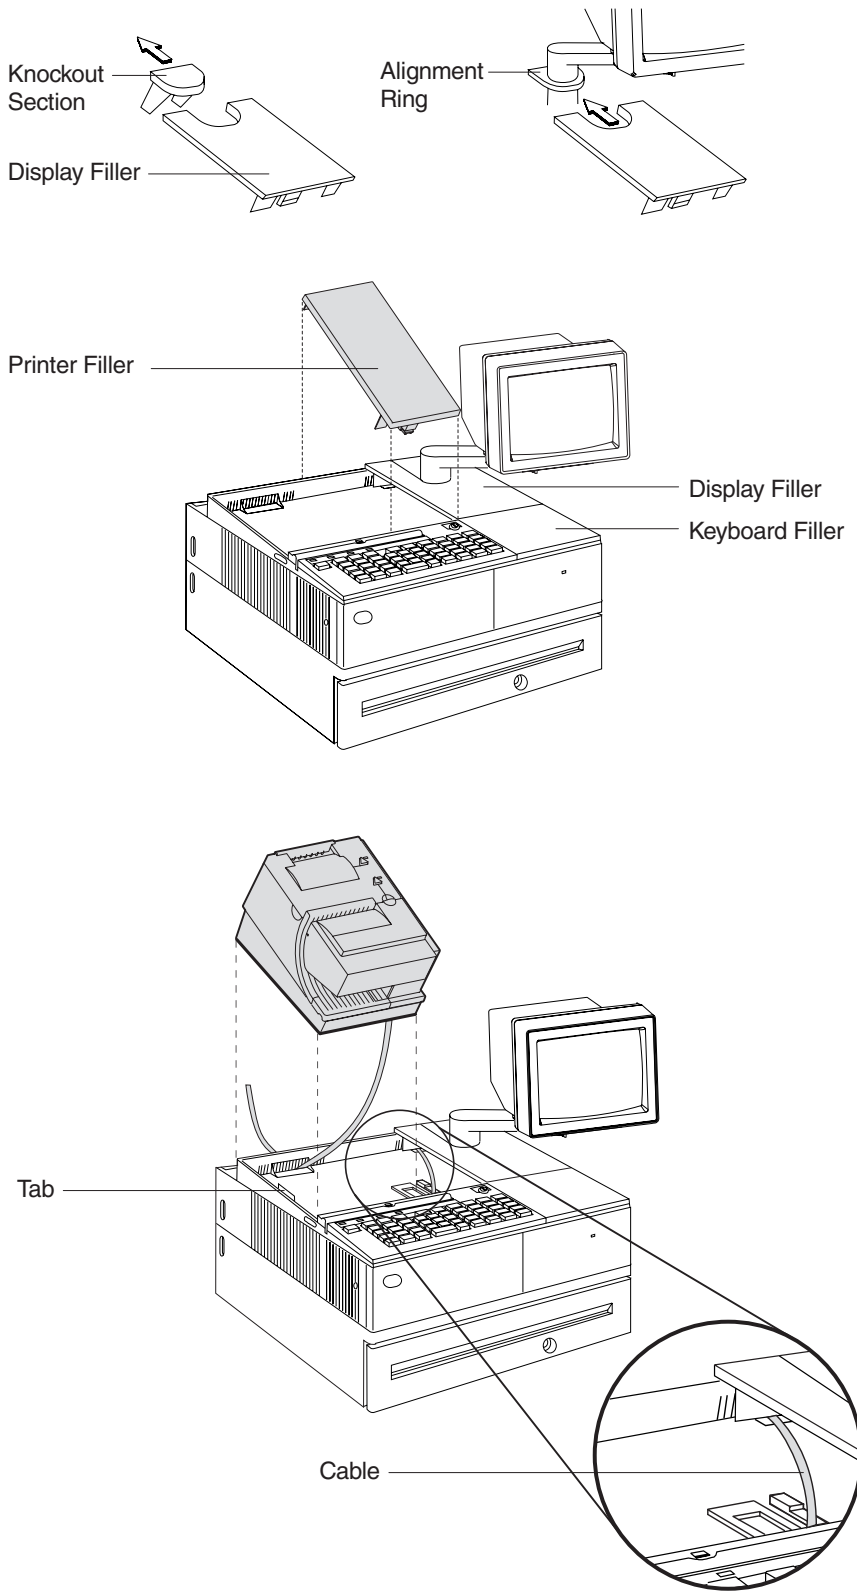

Figure 13. Installing the Fillers for USB Systems. (SurePOS 700 Series system is shown as an example.)
- | 2. Place the display filler appropriate for the video display on the system unit. **Do not remove** the knockout section unless you have an integrated video mount. See Figure 13 on page 22.
- | 3. If you have a short keyboard, place the keyboard filler beside the keyboard. See Figure 13 on page 22.
- | 4. Place the printer filler beside the display filler. **Make sure you route the keyboard cable to the side, as shown in Figure 13 on page 22.**